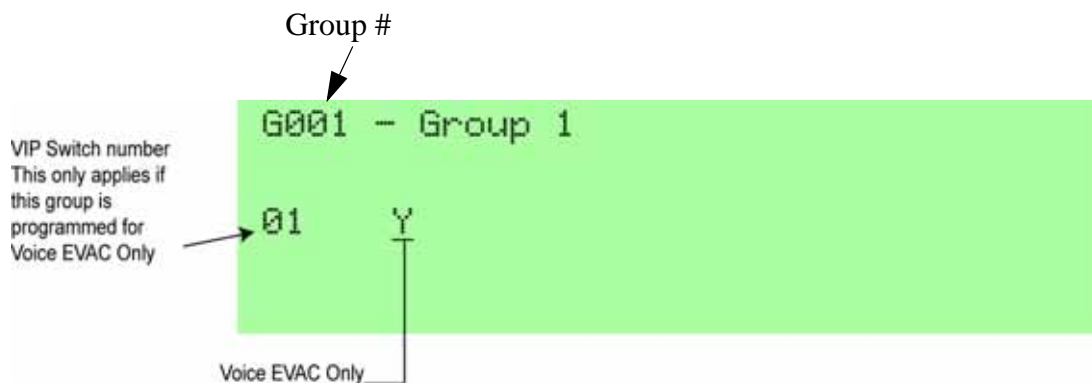

Figure 9-5 Group Properties Screen Programming Options
- Define output group type as voice or non-voice. See option for Voice EVAC Only in Figure 9-5